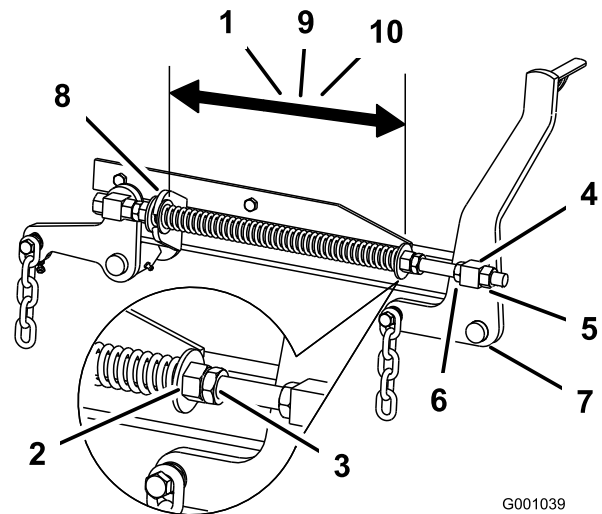

Figure 84
- Check the distance between the two large washers, it needs to be 11-1/8 inches (28.2 cm) for 52 inch mower decks, 10-1/2 inches (26.7 cm) for 60 inch mower decks or 11-1/2 inches (29.2 cm) for 72 inch mower decks (Figure 84).
- Adjust this distance, by loosening the spring jam nut and turning the nut in front of each spring (Figure 84). Turning the nut clockwise will shorten the spring; counter-clockwise will lengthen the spring.
- Lock the nut into position by tightening the spring jam nut (Figure 84).